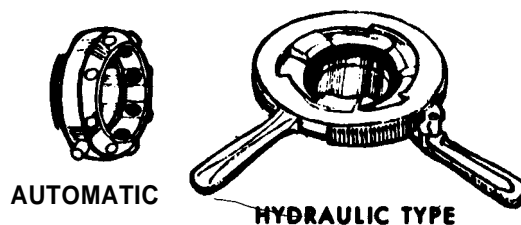

Figure 2-34. Adjustable adapters.
a. Adapter. True adapters permit joining couplings with **unlike** threads. The rigid adapters consist of a short tube with one type of thread on the female end and the other type on the male end. The adjustable adapter (fig. 2-34), such as the universal and **automatic** types, normally have a male coupling thread which matches the department's standard thread on one side and teeth on the other side. The teeth adjust over the male hose coupling, either by spring action or manual lever operation, engaging the male threads. A twist of the hose coupling tightens the connection.